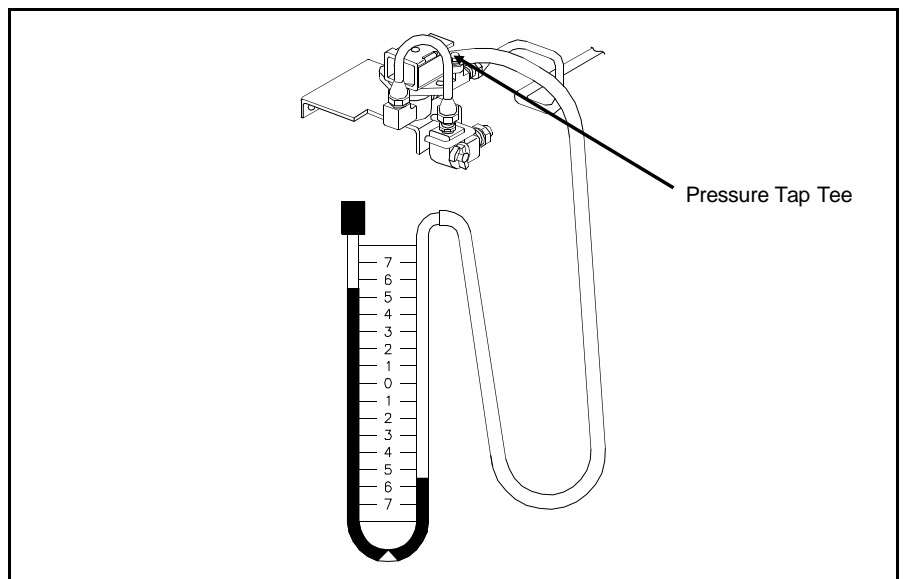

Figure 4.37 Manometer Installed at Pressure Tap
- A. Connect a manometer to the Gas Valve as shown in Figure 4.37.